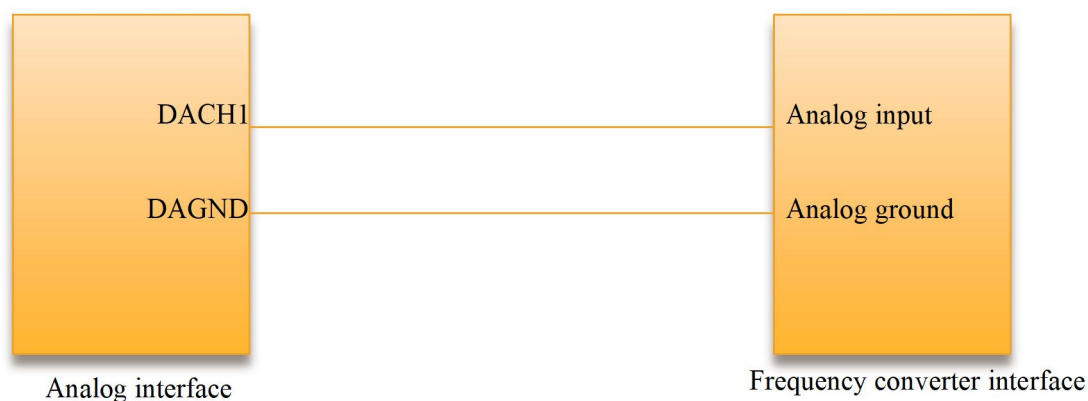

Figure A.1 First wiring method
- 1、 If the wiring in the above diagram can meet the requirements, please wire according to the first wiring method in Figure A.1.